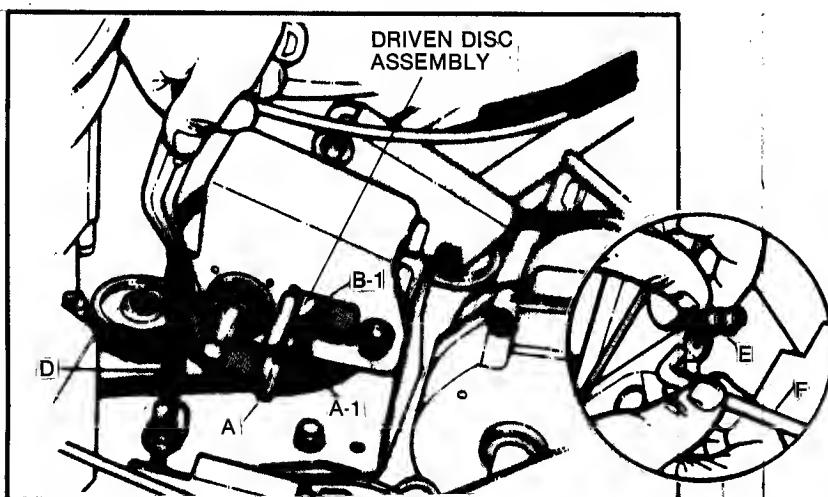

FIG. 14 -DRIVEN DISC ASSEMBLY
- Grease on drive disc (C)-causing slippage.
- Broken or disconnected DRIVE SPRING (D) (also refer to FIG. 14).
- Driven disc rubber ring (B-1) worn - not contacting drive disc (C) properly.
- Driven disc (B) out of adjustment
DRIVEN DISC REPLACEMENT: If the driven disc rubber ring (B-1) is found to be badly chunked or worn down to within $1/16$ " of the metal rim of the driven disc hub (B), it must be replaced. Remove the clip (E) at end of speed control rod, and then turn the transfer rod (F) to a upright (vertical) position and detach from the connector (A) (FIG. 14 & 15). Unhook drive spring (D) (use needle nose pliers) and slide the driven disc assembly off hex-shaft.